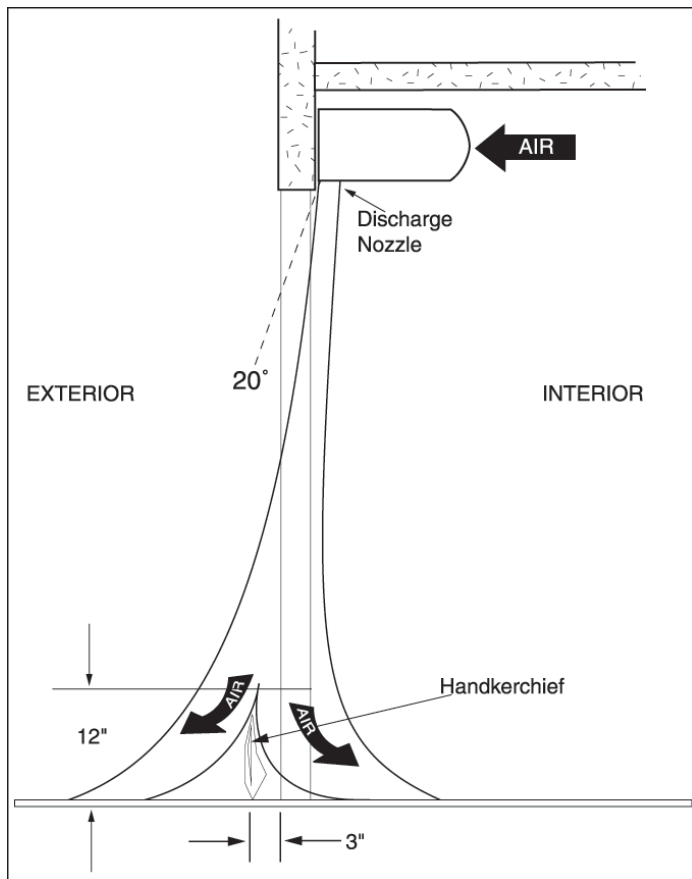

FIGURE 9 - Airflow Adjustment
- B. Find the air stream split location. Hold a handkerchief, by its corners, approximately 12" above the floor. Gently move the handkerchief back and forth in the doorway. Make sure the air is being directed to both the inside and the outside. **See Figure 9.** The split location is indicated where the handkerchief is vertical with minimal or no fluttering.